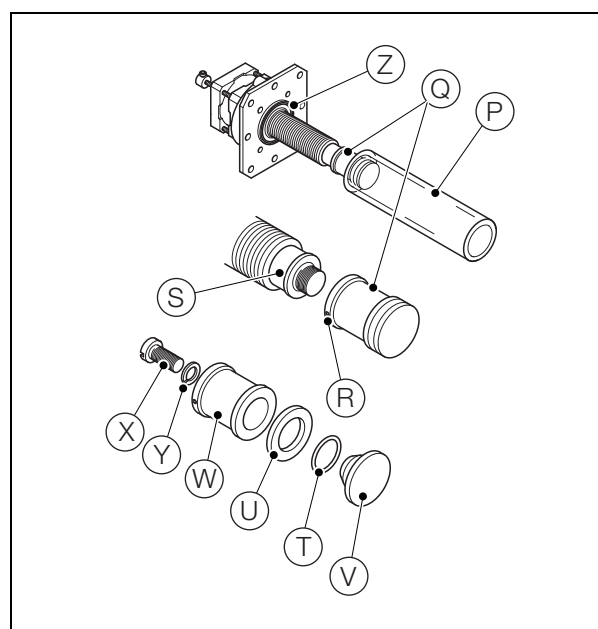

Fig. 13.15 Dismantling/Reassembling the Piston
8. Referring to Fig. 13.15:
- Slide the sample tube (P) off the piston assembly (Q). Discard the sample tube.
- Loosen retaining grub screw (R), unscrew the piston assembly (Q) from the piston shaft (S) and discard the piston assembly.
- Lightly lubricate the new O-ring (T) and piston seal (U) with the silicon grease from the piston kit.
- Fit the O-ring and piston seal to the new piston base (V).
- Insert the piston base, complete with seal and O-ring, into the new piston top (W) and secure loosely with the new piston cone adjusting screw (X) and spring washer (Y).